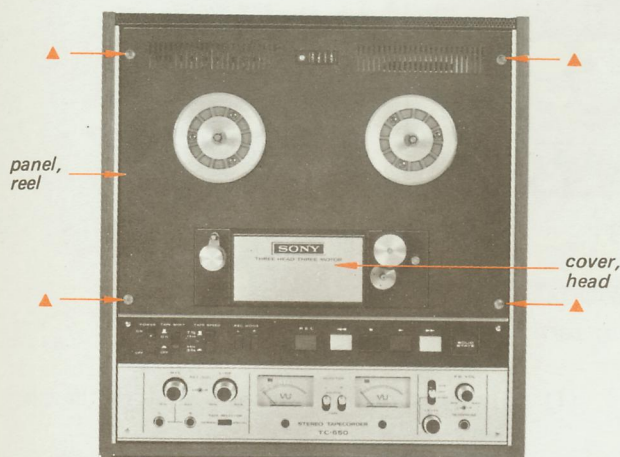

Fig. 2-1. Reel panel removal
- (1) Remove the four reel panel holding screws shown with ▲ in Fig. 2-1.
- (2) Remove the reel panel.